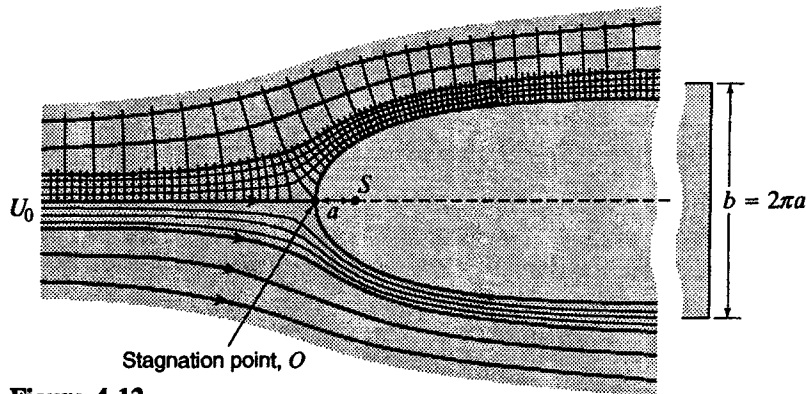

Figure 4.12
5.9 If the body shown in Fig. 4.12 is not two-dimensional but is a solid of revolution about a horizontal axis, the flow will be three-dimensional and the streamlines will be differently spaced. Also, the distance between the stagnation point and the "source" will be  $d/4$ , where  $d$  is the diameter at a great distance from the stagnation point. At points very near the surface at radii from the source making angles with the axis of 0, 60, 120, and 150°, the velocities are 0, 14.0, 21.3, and 19.8 fps respectively when the velocity of the undisturbed field is 19 fps. If the body is a blimp and the atmospheric pressure in the undisturbed field is 14 psia, what will be the pressure at these points, for an air temperature of 53.9°F?